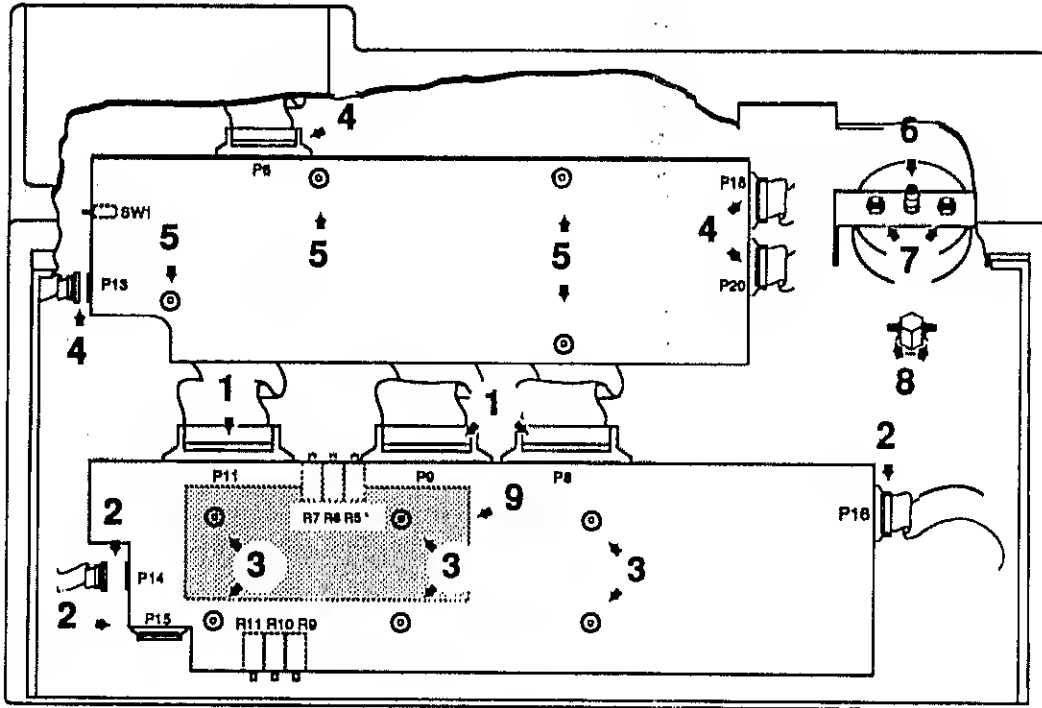

Figure 8-7
1. Detach the ribbon cables P8, P9, P11 from the Control PCB (Figure 8-7, Ref 1).
2. Detach the ribbon cables P14, P15, P16, from the Control PCB (Figure 8-7, Ref 2).
3. Remove the six screws (Figure 8-7, Ref 3) and insulator (Figure 8-7, Ref. 9).
1. Detach the ribbon cables P9, P11, (Figure 8-7, Ref 1) from the Control PCB.
2. Detach the ribbon cables P6, P13, P18, P20 (Figure 8-7, Ref 4).
3. Remove the four screws (Figure 8-7, Ref 5) from the Monitor PCB.
1. Remove the silicone tubing to the Proximal Pressure Gauge (Figure 8-7, Ref 6).
2. Remove the two nuts (Figure 8-7, Ref 7) from the studs retaining the mounting bracket.
1. Remove the two pneumatic connections from the Needle Valve (Figure 8-7, Ref 8).